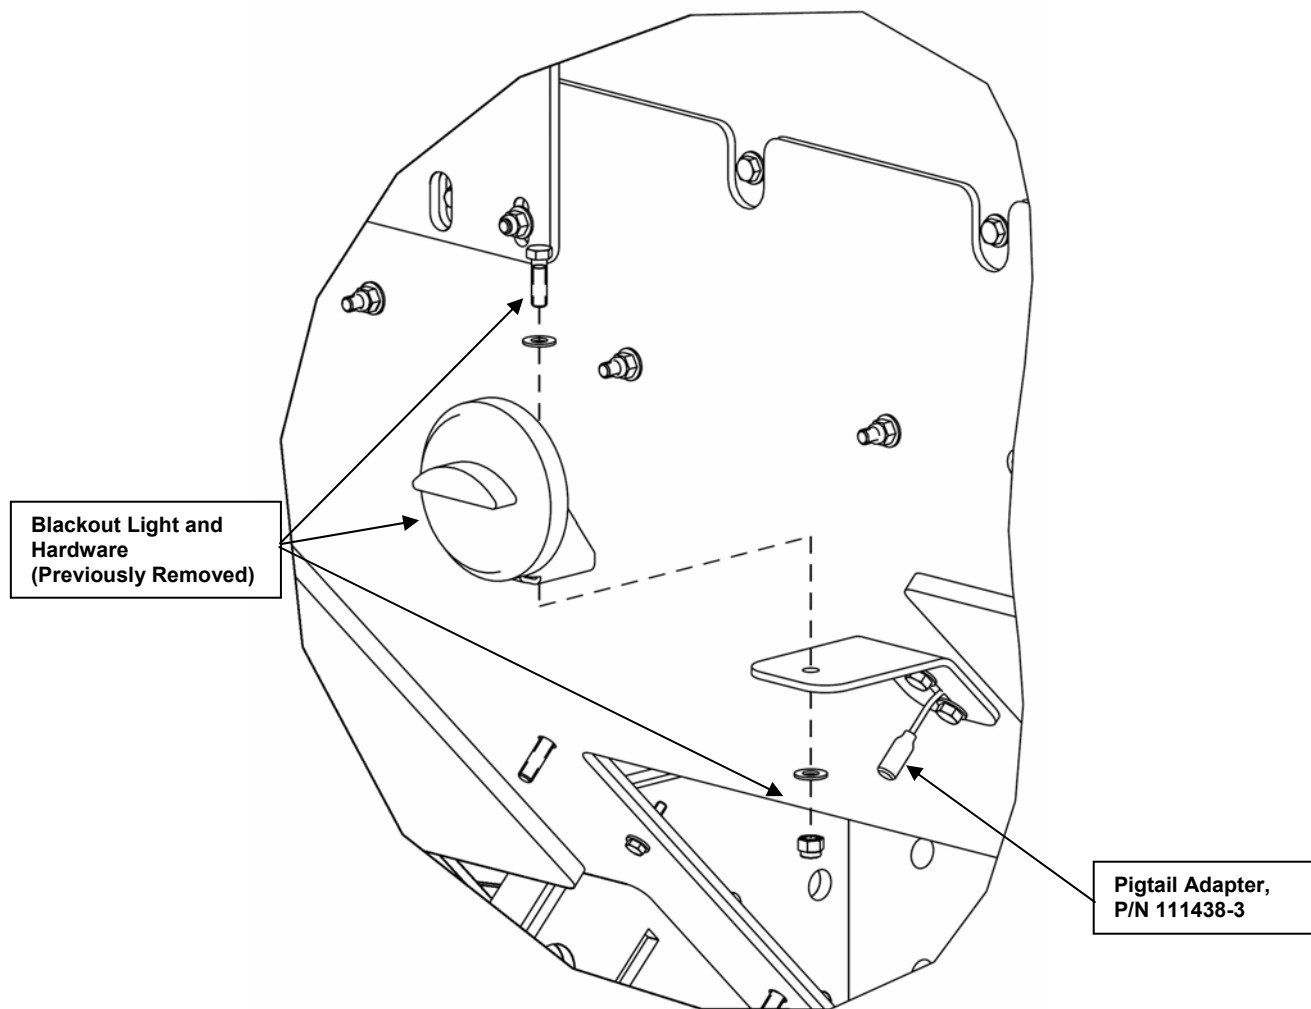

Figure 50. Front Blackout Light.
- l) Connect the mating end of the Pigtail Adapter (P/N 111438-1) to the Blackout Light wire that was previously disconnected. Remove the rubber boot from the other end of the Pigtail Adapter and rout the wire through a hole in the armor as shown in Figure 50. Re-install the rubber boot.
- m) Using the original hardware, attach the Blackout Light to the bracket, as shown in Figure 50.